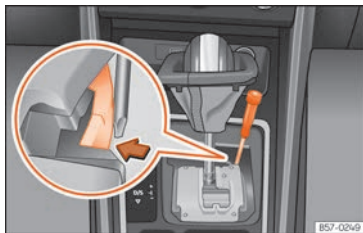

Fig. 104 Selector lever: manual release from position P.
- Using the flat part of a screwdriver, press the yellow tab sideways and keep it pressed down >>> Fig. 104.